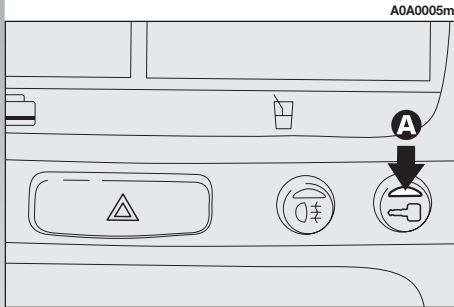

fig. 7
Engagement of the alarm is preceded by a self-diagnostic test indicated by a different flashing frequency of the deterrent led (**A-fig. 7**) on the dashboard. If a fault is detected the system sounds a further warning "beep".
After switching on, the flashing of the deterrent led (**A-fig. 7**) on the dashboard, indicates the system surveillance mode. The led flashes throughout this period.
**IMPORTANT** If when the system is turned off the deterrent led (**A-fig. 7**) on the dashboard stays on (maximum 2 minutes or until the ignition key is set to **MAR**) the following should be borne in mind:
The deterrent led (**A-fig. 7**) on the dashboard lights up for about 2 seconds to confirm that the function has been cut off.